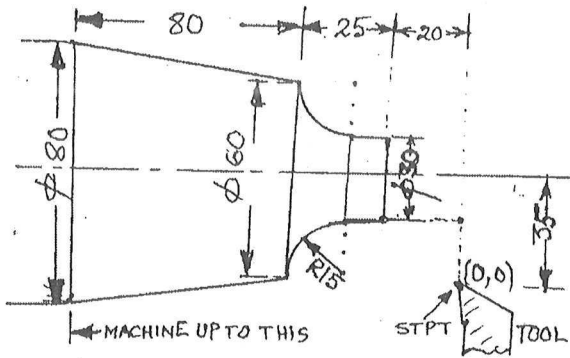

Fig. 1
9. Write a manual part program for the finishing cycle of turning of a job as shown in fig. 1 to be machined in a CNC lathe. (STPT indicates start point, all dimensions are in mm) 10